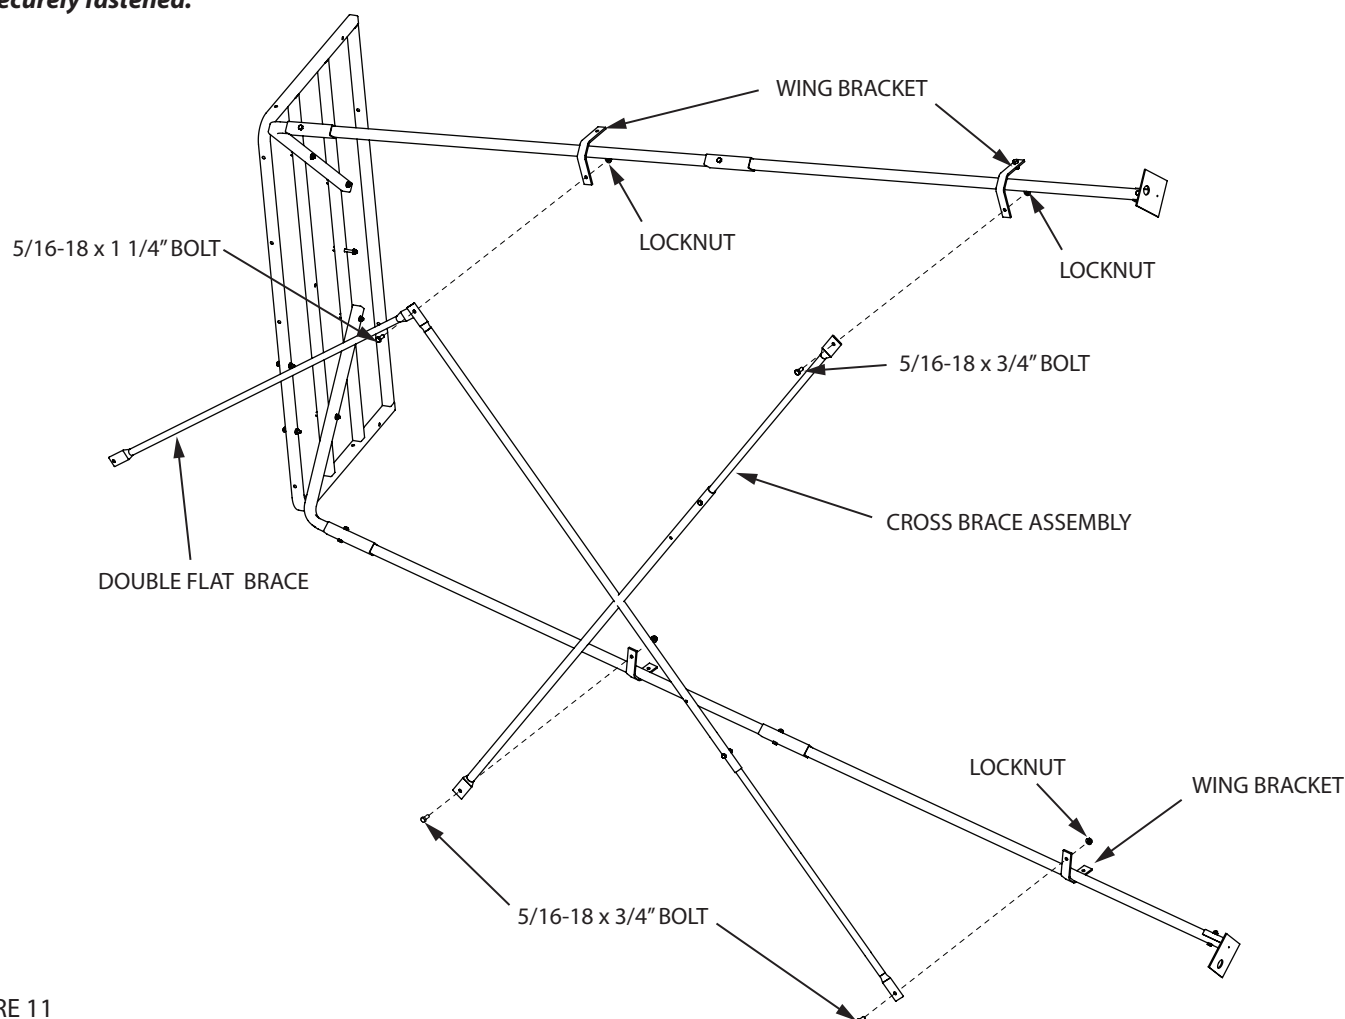

FIGURE 11
- a. Attach the opposite end of all four double flat braces to the wing bracket of each top leg section using (4) provided 5/16-18 x 1-1/4" bolts and locknuts. **SEE FIGURE 11.**
- b. Attach (2) cross brace assemblies to wing brackets of leg sections, on each side of the tower (8 total cross brace assemblies), using (12) provided 5/16-18 x 3/4" bolts, (4) 5/16-18 x 1-1/4" bolts and (16) locknuts. **SEE FIGURE 11.**